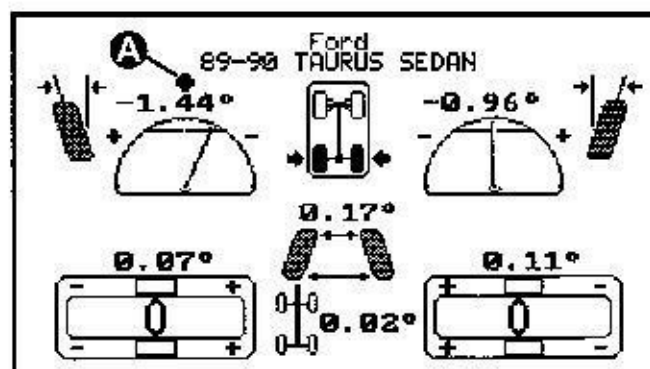

Figure 2-25
The dot (A) which appears over the readings on the screen indicates which specifications will be displayed (see Figure 2-25).